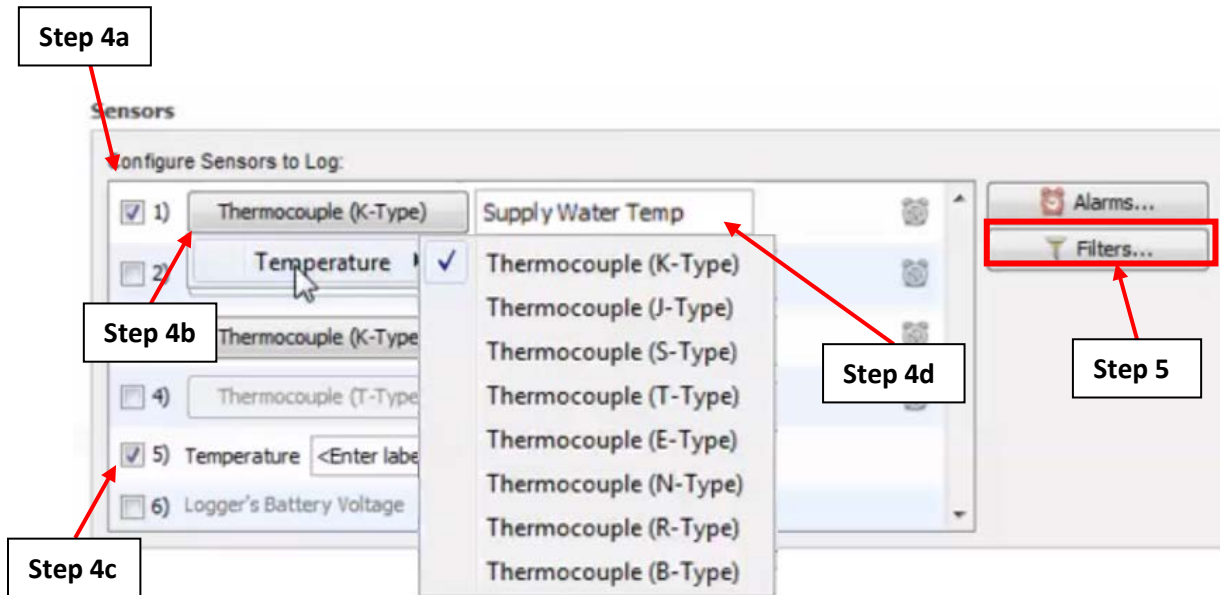

Figure A.12.4: The “Sensors” table with the necessary configuration steps.
4. Figure A.12.4 shows what settings to enable in the "Sensors" table:
- a. Select the number of checkboxes which correspond to the number of thermocouples that you would like to use on the Onset HOBO 4-Channel Thermocouple Logger. For example, Figure A.12.4 shows only one checkbox has been checked in, which means only 1 thermocouple will be connected to the Onset HOBO 4-Channel Thermocouple Logger.
- b. Click the dropdown menu which will bring up a list of different thermocouples that can be used with the Onset HOBO 4-Channel Thermocouple Logger. At the time of writing, the CUNY BPL FELL only offers type T thermocouples, which is the option that is selected as shown on Figure A.12.4. Make sure to select the correct thermocouple for the correct port on the logger, as selecting the incorrect thermocouple will result in an incorrect reading. See Figure A.12.5 for an example for the supply and return water temperature for an evaporator.